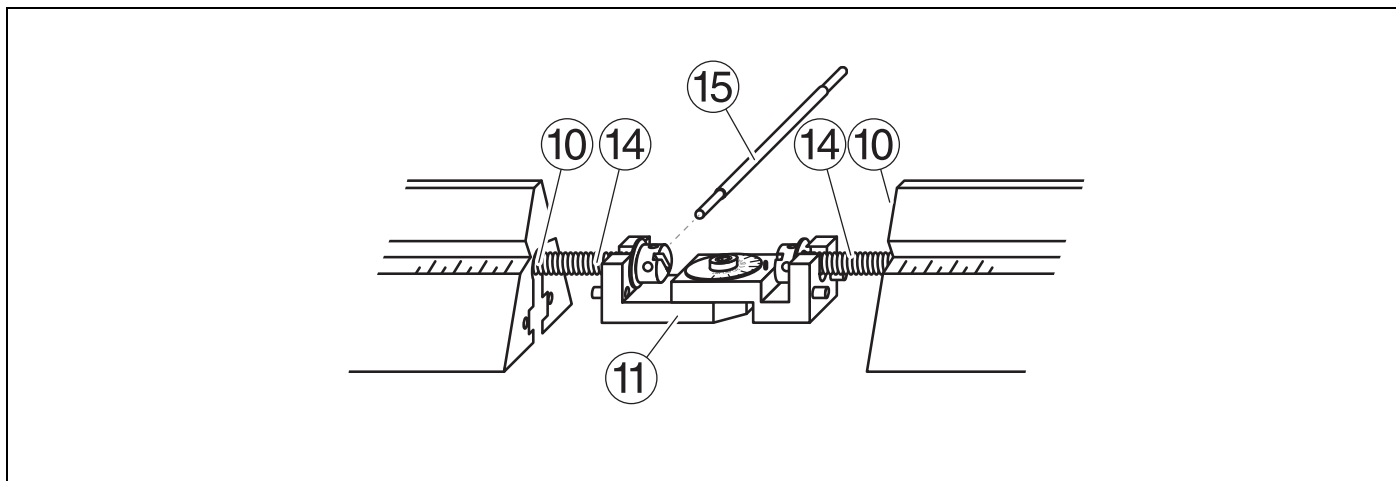

Fig. 2
- ① - ⑩ Auxiliary rail like optical benches with standardized cross-section (460 32/33), see section 1.1; Length: 0.5 m
- ⑪ Swivel joint for connection of optical benches (460 32/33) to the auxiliary bench (460 34)
- ⑫ Protractor, ± 90°, with 5° divisions
- ⑬ Marking pin for indication of angle
- ⑭ Screws with transverse hole with washers, for mounting swivel joint ⑪ in holes ⑩ (Fig. 2)
- ⑮ Tool for ⑭
2.1.2 Swivel joint between optical benches (460 32/33) and auxiliary bench with swivel joint and protractor (460 34); see Fig. 2
Screw the screws with transverse hole (14) into holes (10) (no more than two full turns), place them in swivel (11) as shown in Fig. 2 and tighten them using the tool (15).